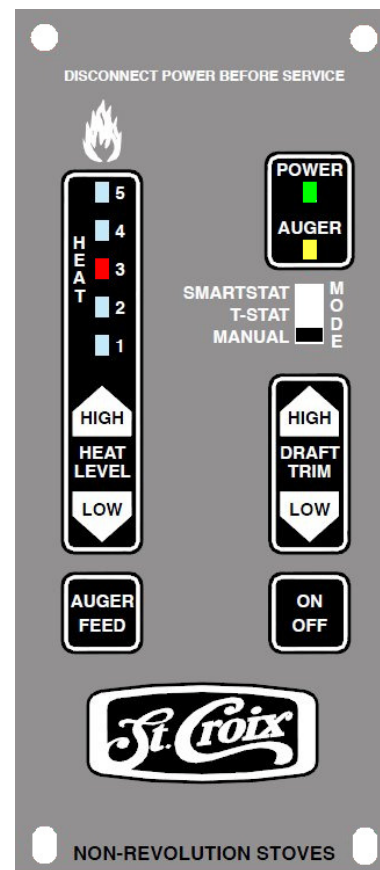

Figure 18
A closer look at the Control Board to the right in figure 18 will explain how the board works. There are essentially 4 buttons on the control board. Two of these buttons, the **Heat Level** and **Trim** Buttons, have a High/Low side to advance these settings up or down. There is a **Slide Switch** that controls the Thermostat Mode and an **LED Light** bar that indicates which of the 5 Heat Settings the Element-MF is running on.
4. Close the door and push the On/Off button on the control board. *(See figure 18 on page 26)*